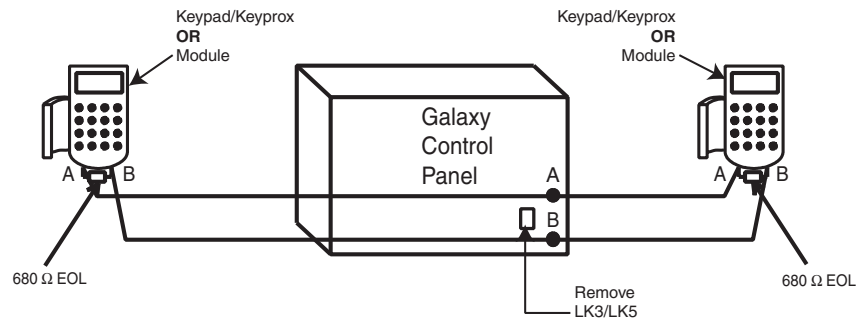

Figure 2-7. Twin AB Line Daisy-Chain configuration
5. The RS485 (**AB**) line must have a $680\ \Omega$ resistor fitted across the **A** and **B** terminals of the last module on the line. If twin lines are connected, both ends must be terminated with $680\ \Omega$ resistors and the appropriate link on the control panel PCB must be removed (refer to figure 2-7).